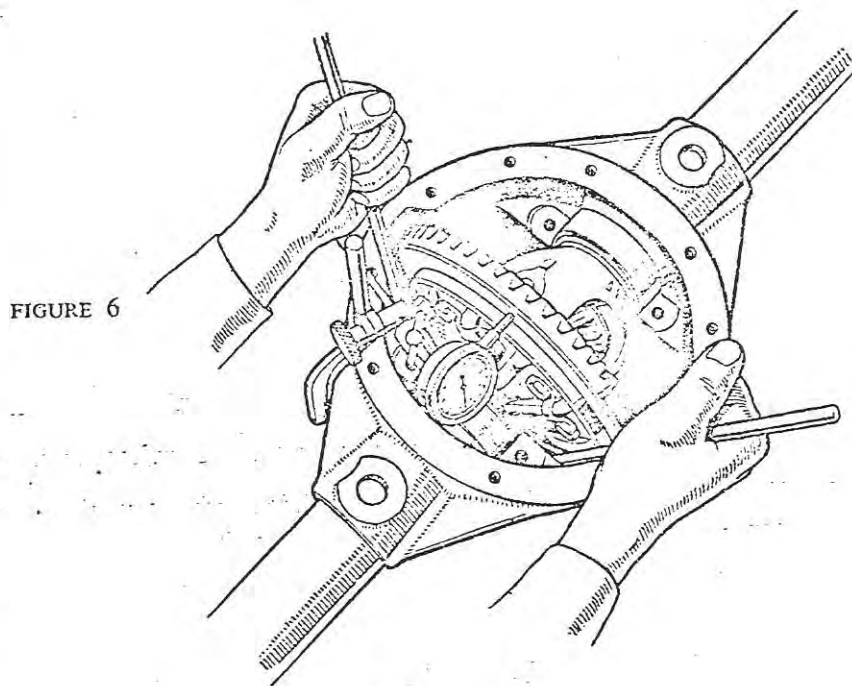

FIGURE 6
- (1) Fit the differential bearings, without shims, on the differential case, making sure that the bearing cones and cups and the housing itself are perfectly clean.
- (2) Place the differential assembly with the bearing cups in their housing within the gear carrier, the pinion not being assembled.
- (3) Install the dial indicator set, Tool SE.101 in the Service Tool List, on the gear carrier, with the button against the back face of the drive gear.
- (4) Inserting two levers between the housing and the bearing cup, move the differential assembly to one side of the carrier, as shown in Figure 6.
- (5) Set the dial indicator to zero.
- (6) Move the assembly to the other side and record the indicator reading, which gives the total clearance between the bearings as now assembled and the abutment faces of the carrier housing.
- (1) Place the differential assembly with bearing cups, and less shims, into the housing, being sure that the bearing cones, cups and housing are perfectly clean.
- (2) Install a dial indicator on the housing with the button on the back face of the drive gear as shown in Figure 6.
- (3) Inserting two small levers between the housing and the bearing cup, move the differential case and drive gear assembly away from the pinion until the opposite bearing cup is seated against the housing.
- (4) Set the dial indicator to zero, then move the differential assembly towards the pinion until the drive gear is in metal to metal contact deeply in mesh with the pinion.
- (10) Mount a dial indicator on the gear carrier housing with the button against the back face in a similar manner to that employed for differential bearing adjustment as shown in Figure 6. Turn the pinion by hand and check the runout on the back face which should not exceed .005". If there is excessive runout strip the assembly and rectify by cleaning the surfaces locating the drive gear. Any burrs on these surfaces should be removed.